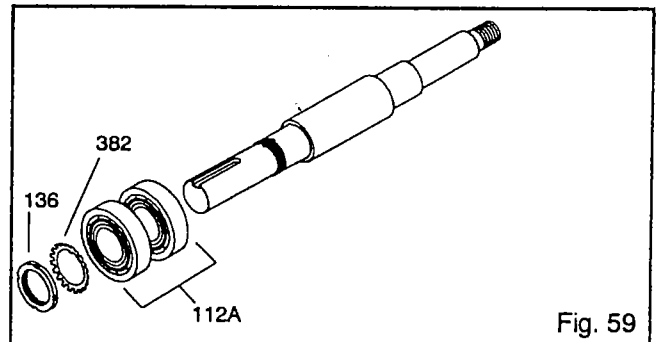

Fig. 59
10. Remove bearing locknut (136) and bearing lockwasher (382) (Fig. 59).